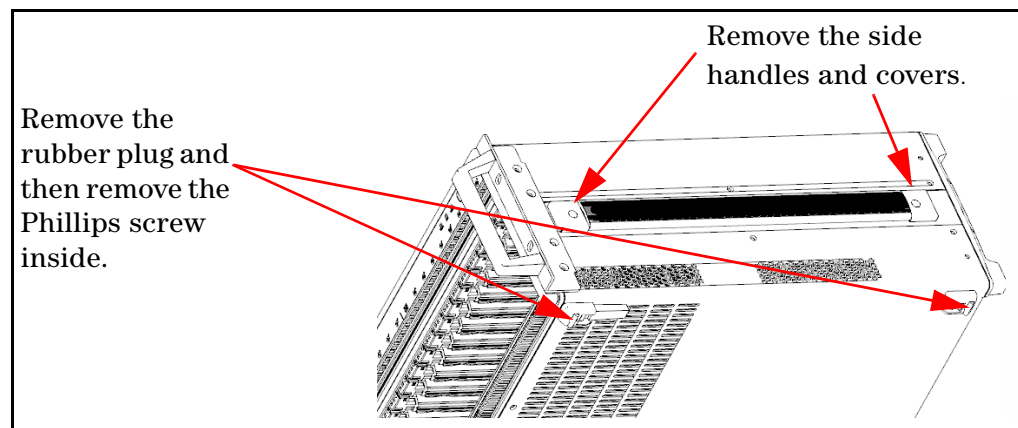

Figure 1 . Removing the Chassis Feet
- 1 Refer to Figure 1 below. Remove the side handles and handle covers from both sides of the M9018A PXle chassis.
- 2 Remove the four chassis feet by pulling out the small rubber insert on each foot and then removing the Phillips screw that attaches the foot to the chassis. See Figure 1.